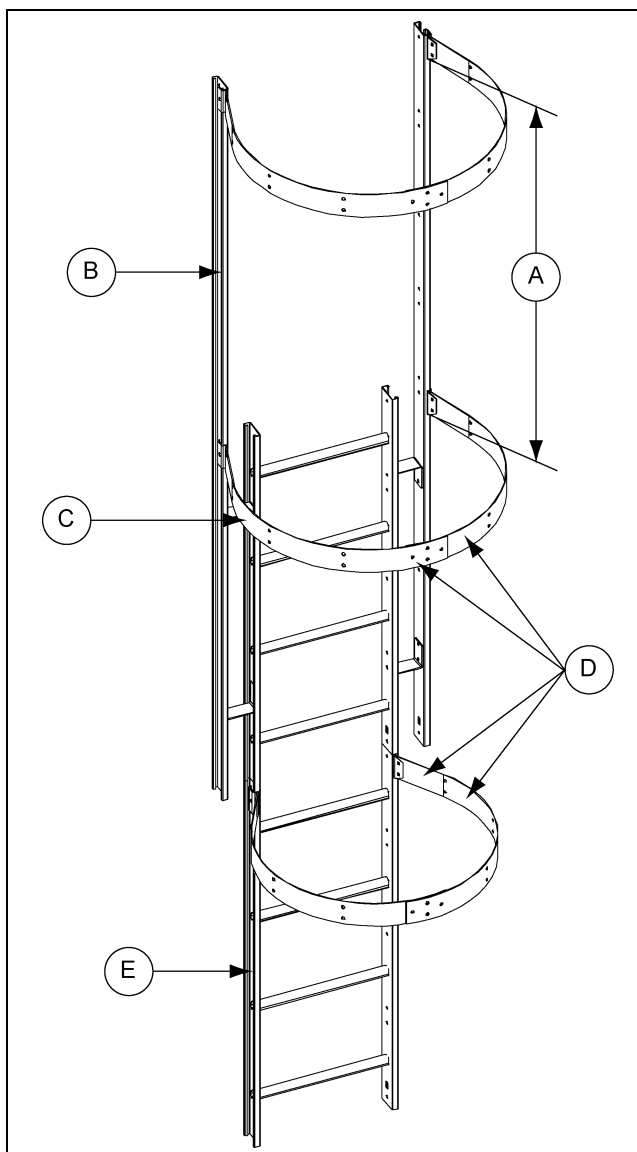

Figure 10C
To complete the safety cage hoop installation, some pre-assembly is required. Attach four (4) safety cage brackets to the extension rails and two (2) safety cage brackets to the second 4' ladder section as shown in Figure 10C. See cage hoop bracket detail on Page 50 for proper installation. Next, bolt each set of safety cage hoop halves together using 5/16" x 1" bolts with the head of the bolt to the inside of the safety cage. You may now bolt these assemblies to the safety cage brackets. Tighten bolts as you go.